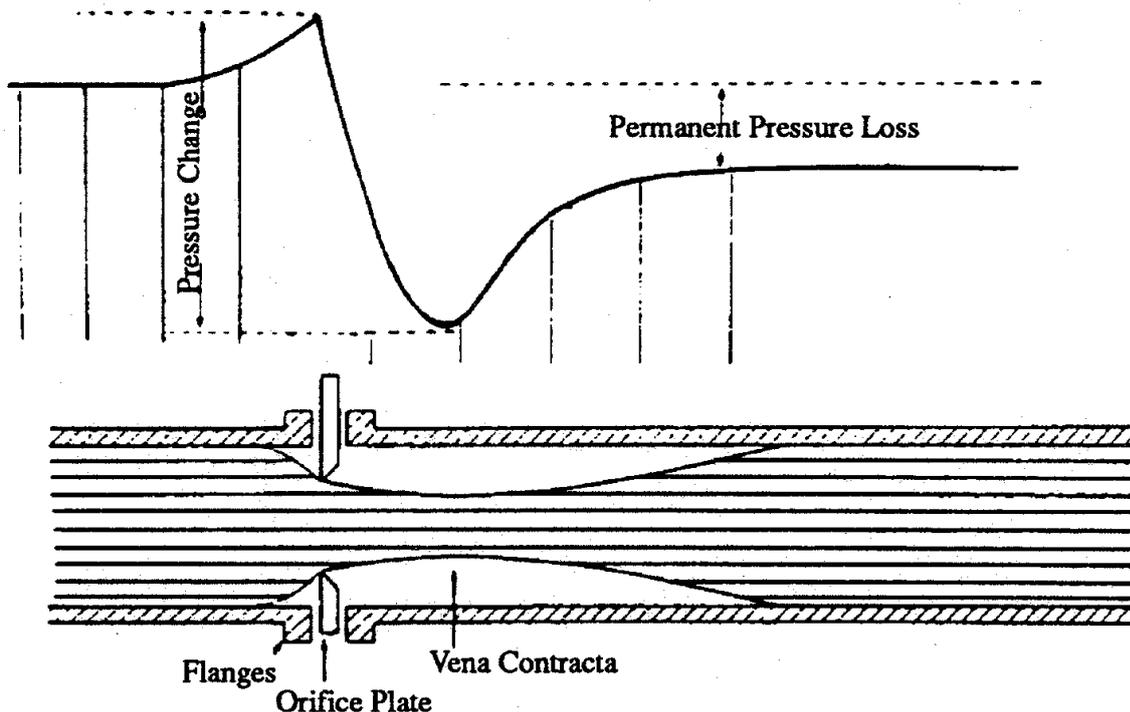

Figure 3: Orifice Plate Installation With Pressure Profile.
- From Figure 3, it can be seen that the **measured differential pressure** developed by flow through an orifice plate also depends on the location of the pressure sensing points or **pressure taps**.